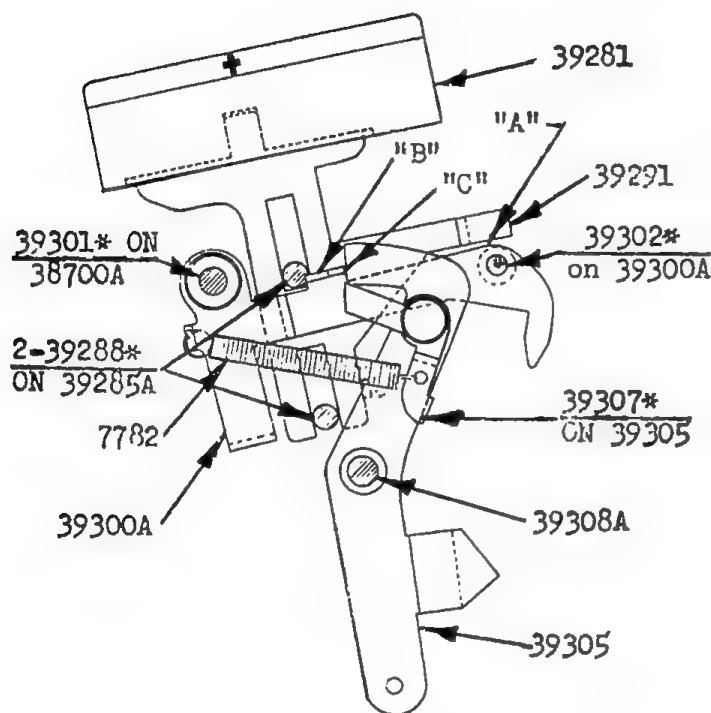

FIG. 21
1. (Fig. 21 & 22). Depression of Add Key Stem-39291 causes its surface "A" to contact Stud-39302* on the Add Bellcrank 39300A and rocks 39300A clockwise, thereby moving ear "B" on 39300A down and away from surface "C" on the Add Operating Lever-39305 and allowing 39305, under tension of Spring-7782 to rock counter-clockwise. A repeat add cycle due to holding Key Stem-39291